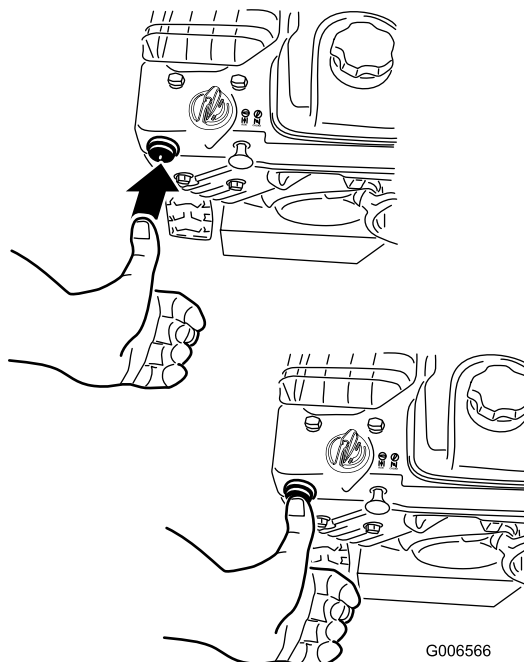

Figure 26
4. Firmly push in the primer with your thumb 2 times (15°F or -9°C or above) or 4 times (below 15°F or -9°C), holding the primer in for a second before releasing it each time (Figure 26).